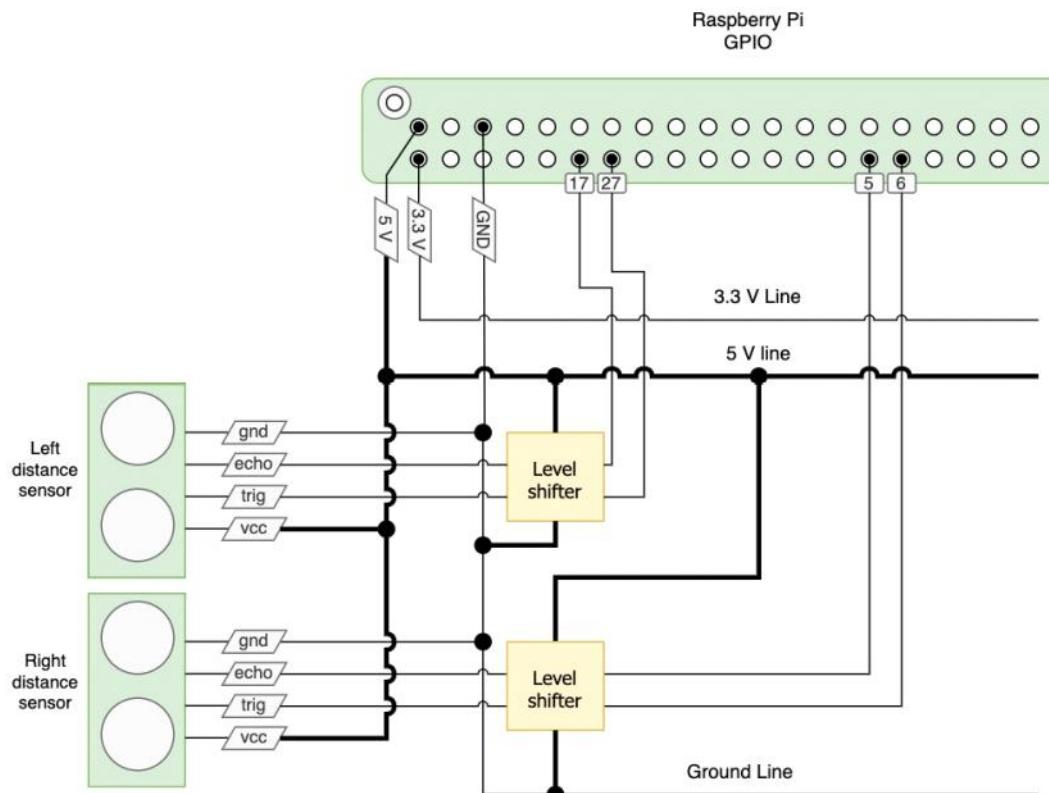

Figure 8.5 – Wiring the HC-SR04 sensors into the level shifters
*Figure 8.5* shows a wiring diagram for a robot that uses HC-SR04 5v sensors that require logic level shifting. This circuit diagram shows the Raspberry Pi GPIO pins at the top. Coming from 3 pins to the left are the 5 V, 3.3 V (written as 3v3), and ground (GND) lines. Below the GPIO pins are the 3.3 V and 5 V lines.